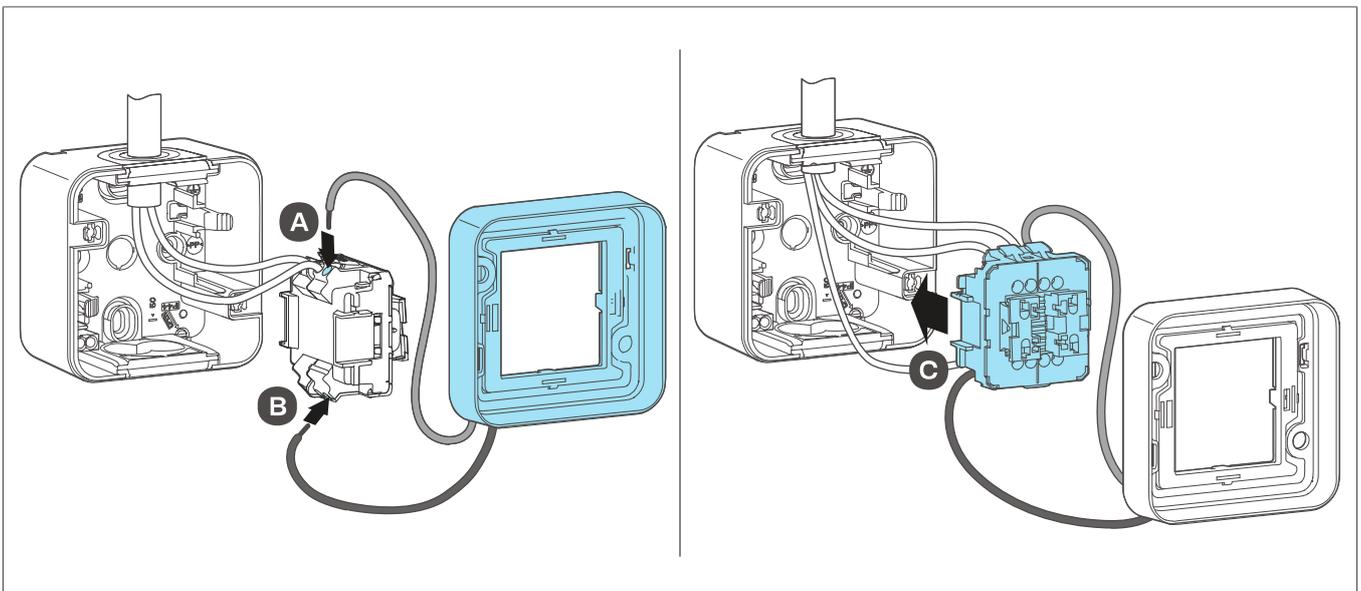

Fig. 10: Connect the illuminated cover frame (left) / snap the insert into place (right)
- 4 Connect the illuminated cover frame (3) for permanent lighting, orientation lighting or control lighting (A and B) (Fig. 10, left).
- 5 Insert the insert (4) back into the housing bottom part until it snaps into place (C) on the brackets (7) (Fig. 10, right).